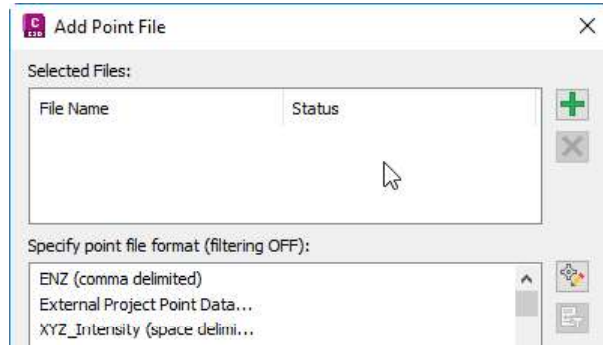

Figure 3-60 Partial view of the **Add Point File** dialog box
- From the **Specify point file format** list box, select the **PENZD (space delimited)** option. This file format is used for the point files that are saved with the extension **.txt**, as shown in Figure 3-60.
- Browse to the folder **c03_c3d_2027_tut** and select the **c03_c3d_2027_tut01- PENZD .txt** file. Choose the **Open** button; the file name and path is displayed in the **Selected Files** list box, refer to Figure 3-60.